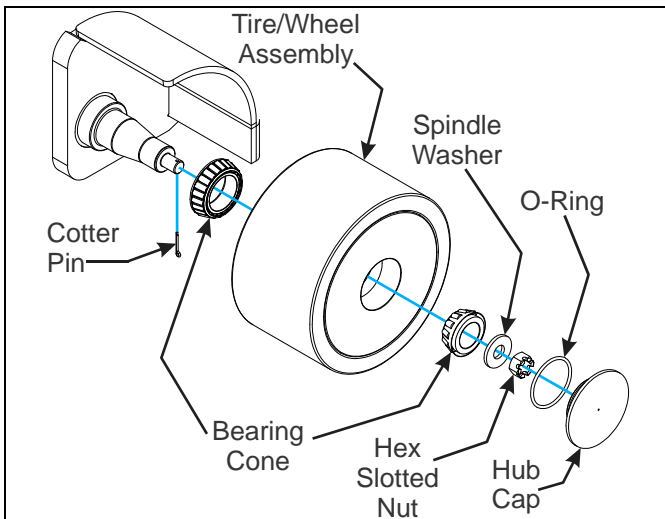

Figure 3-15: Wheel Bearing Inspection
2. Throughout these instructions, See Figure 3-15.
1. If the bearing cups are replaced, clean the hub and press the new bearing cups into the hub. See Figure 3-15.